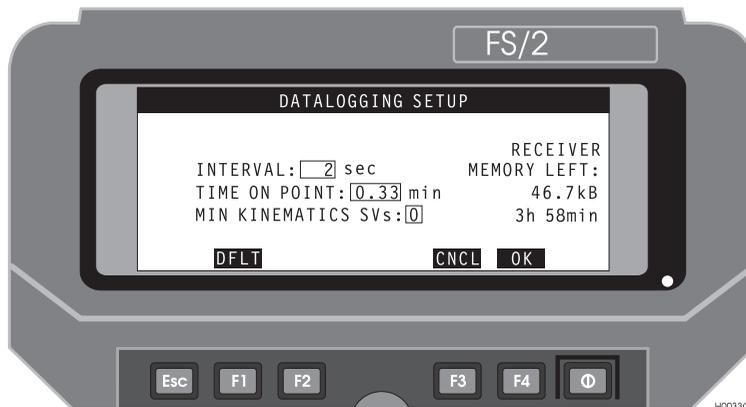

Figure B.3: Datalogging Setup Screen
9. Press **F4 (OK)** to accept the changes and return to the GIS main menu.
10. Press **F3 (LGST)** to open the Datalogging Setup screen (Figure B.3).